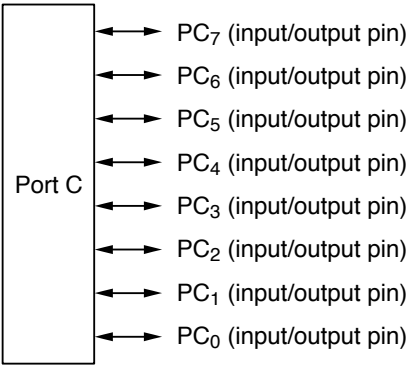

Figure 9-81 Pin Functions in Mode 7
(3) Pin Functions in Mode 7: Port C consists of general-purpose input/output pins. Input or output can be selected separately for each pin. A pin becomes an output pin if the corresponding PCDDR bit is set to 1 and an input pin if this bit is cleared to 0. Figure 9-81 shows the pin functions in mode 7.